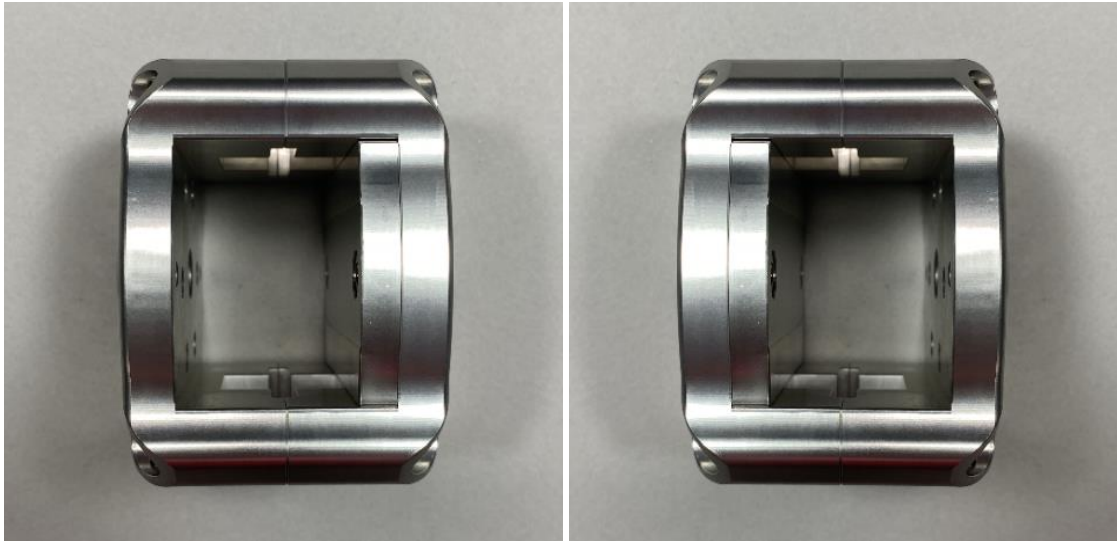

Figure 4 (Aft looking forward, insert recommended to the inboard side)
Step 3: Trial Fit Universal Clamp with Insert (2021 Axis A22, T22, T23): Trial fit the Universal clamp set, WNG-UNI-CLAMP with insert, around the swim platform bracket. The brackets can be installed in either orientation as shown in figure 4. The preferred installation locates the clamp half "with the insert" to the inboard side of the swim platform bracket. The lower tube should also mount to the inboard side.